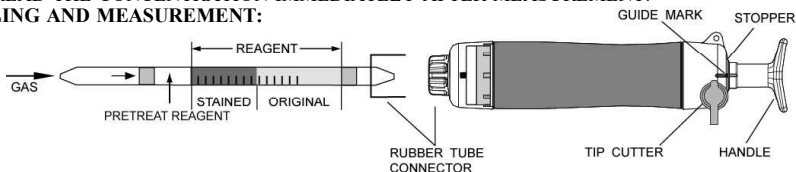

Fig.1
- ① Break both ends of the detector tube.
- ② Insert the detector tube into the aspirating pump securely as shown in Fig.1. (Arrow mark shall point to the pump.)
- ③ Align the guide marks on the shaft and stopper of the aspirating pump.
- ④ Pull the pump handle at a full stroke until it locks and wait for 1.5 minutes or until the completion of sampling is confirmed with the flow indicator of the pump (See descriptions about the flow indicator in the instruction manual of the pump).
- ⑤ On completion of the sampling, read the scale at the maximum point of the stained layer.
- ⑥ If the concentrations are below the scale range, change the tube and carry out multiple pump strokes of 2 or 4 to determine lower concentrations. On completion of each sampling, correct the reading value by the temperature correction table if necessary. In case of 2 pump strokes, multiply the value by 0.46 and in case of 4 pump strokes, multiply the value by 0.21.
- ⑦ If the concentrations are over the scale range, change the tube and carry out 1/2 pump strokes.